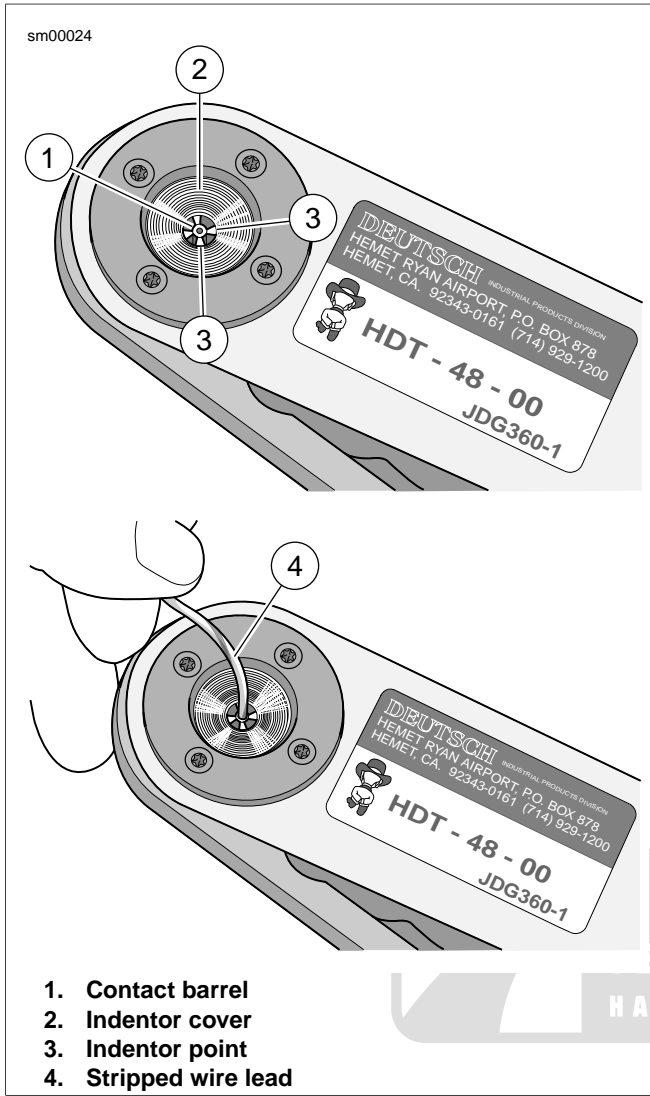

Figure A-23. Deutsch Solid Barrel
1. See Figure A-23. Turn tool over and drop contact barrel (1) into indenter cover (2) hole with the wire end out.
3. Slowly squeeze handles of crimp tool until contact is centered between the four indenter points (3).
4. Insert bare wire core strands of stripped wire lead (4) into contact barrel. Squeeze handle of crimp tool until tightly closed. Tool automatically opens when the crimping sequence is complete.